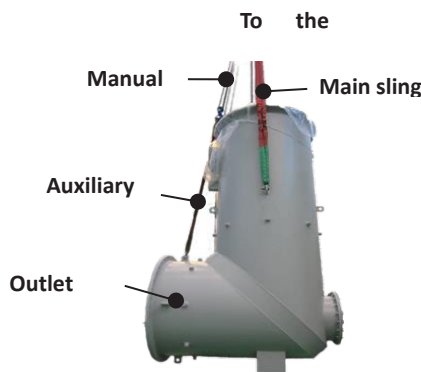

Fig.3. Lifting device lifting reference
- 4) Prepare 4 5t manual hoists Press (Fig. 3) to connect the sling and manual hoist. The lifting hook makes the main sling slightly force.